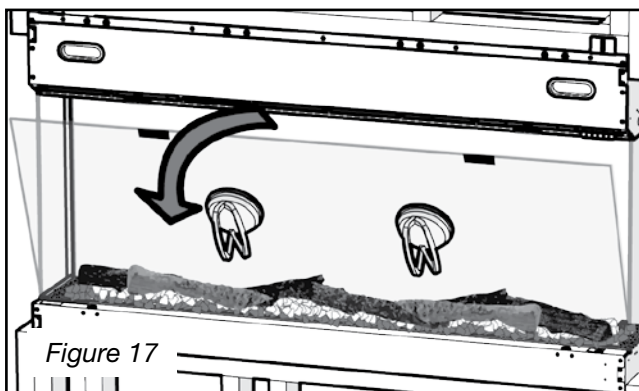

Figure 17
4. Attach the suction cups to the front glass and use them to lift the glass up and tilt it to remove it. (Figure 17)